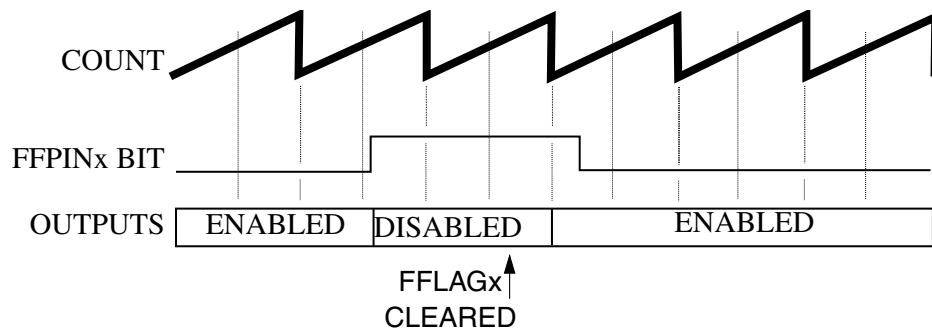

Figure 119. Manual fault clearing (FCTRL[FSAFEx] = 0, FSTS[FFULLx] = 1)
- The pins are enabled when the next PWM full or half cycle begins regardless of the logic level detected by the filter at the FAULT_x pin, as shown in Figure 119. If FSTS[FFULL_x] is set, then the disabled PWM pins are enabled at the start of a full cycle. If FSTS[FHALF_x] is set, then the disabled PWM pins are enabled at the start of a half cycle.